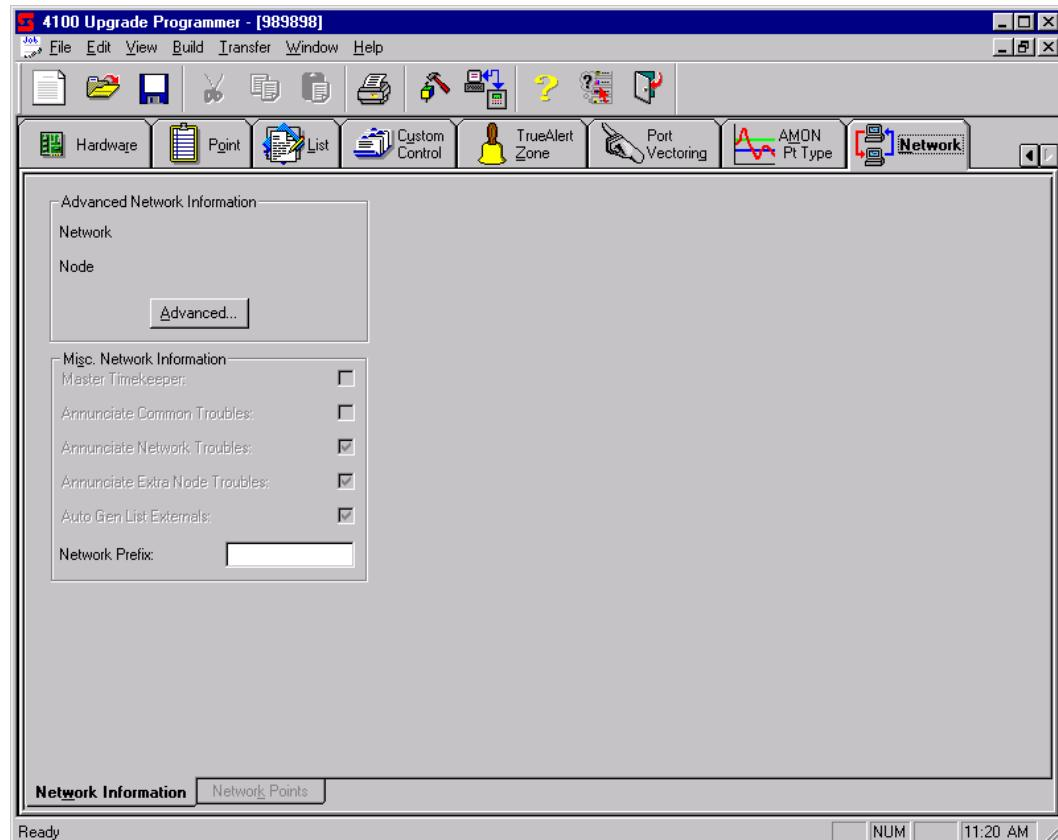

Figure 13-4. Network Tab, Showing Network Information
1. Click on the Network tab, shown in the upper right corner of Figure 13-4.